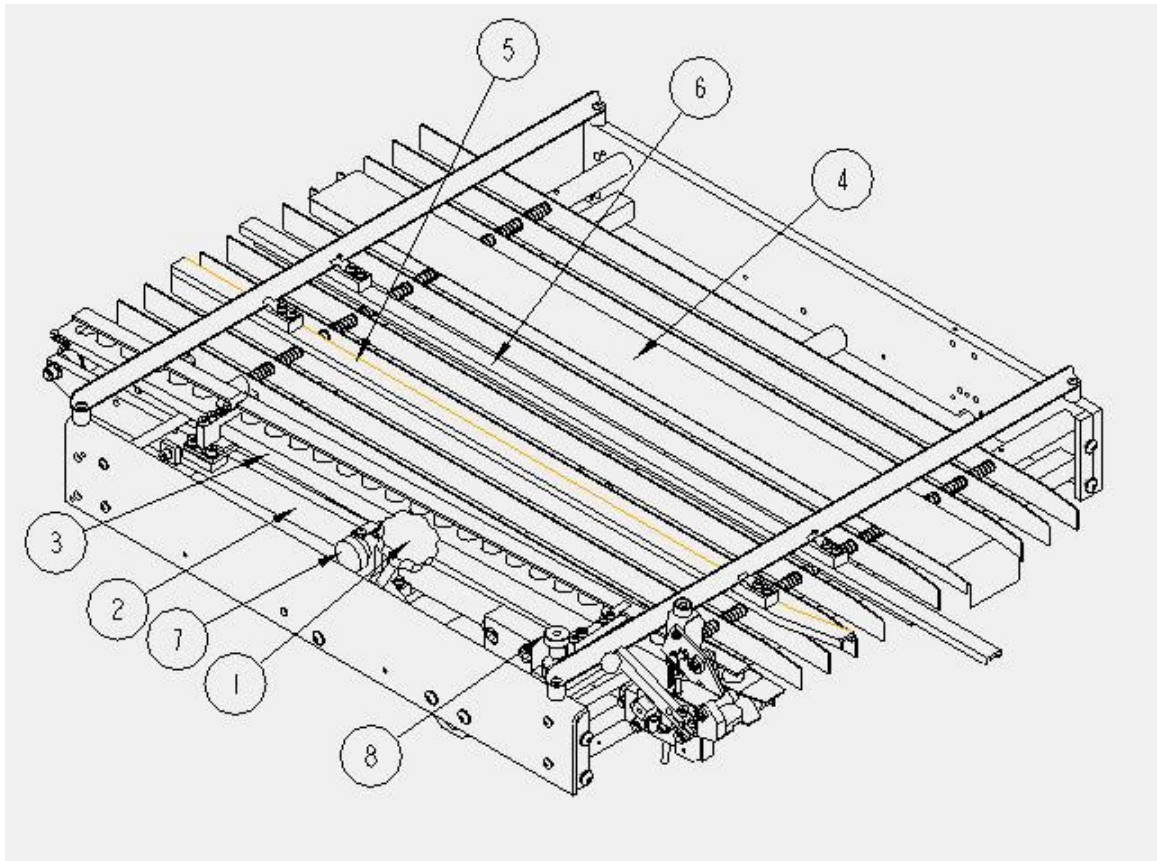

Figure 41
1. Use the fluted knob, 1, to slide the side guide, 2, with the marble holder, 3, so that it is 1/16" away for the stack of loaded paper. See figure 41.